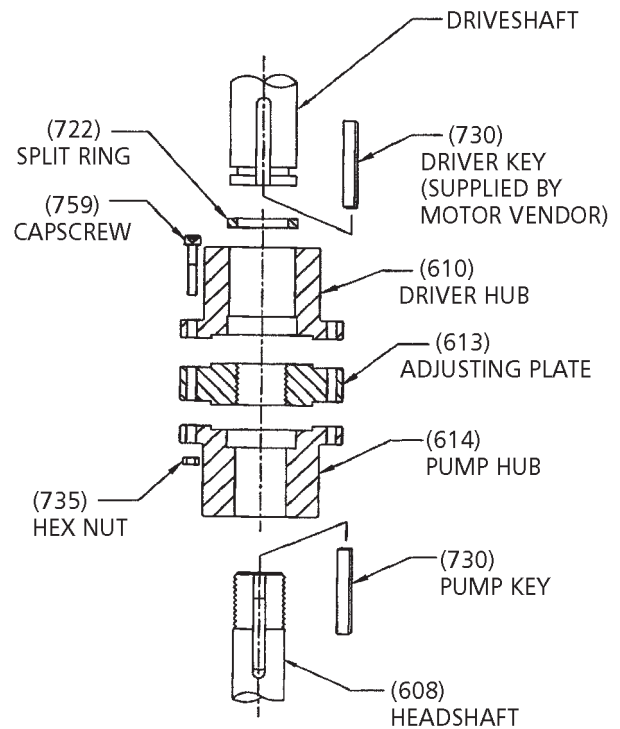
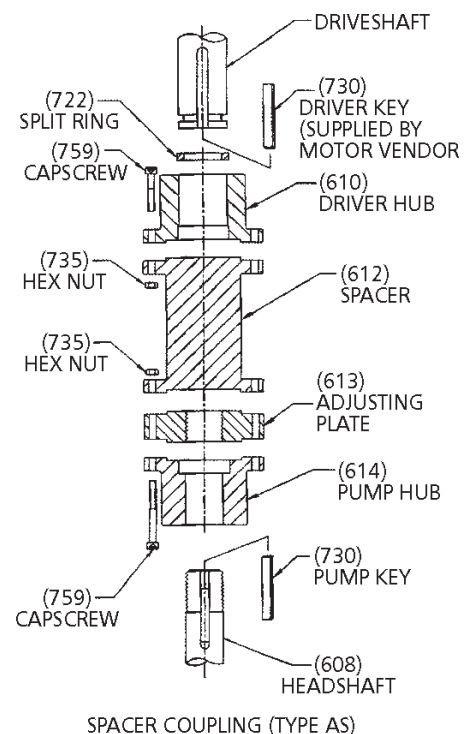

Figure 14
Figure 15
The coupling between the driveshaft and discharge head shaft may be a non-spacer type (see Figure 14), or a spacer type (see Figure 15). The latter is used on pumps furnished with a mechanical seal to permit servicing of the seal without removal of the driver.
COUPLING INSTALLATION: (SEE FIGURES 14 and 15)
6. Apply a thin film of oil to the driver key (730) and insert key into drive shaft keyway seat. Place the driver hub (610) onto the drive shaft and with key slide it up the drive shaft until the annular groove is exposed. Install split ring (722) in the groove and slide driver hub down over the split ring to capture it.
7. If the pump is supplied with an adjustable spacer coupling (see Figure 15), install spacer (612) between headshaft and driveshaft hubs. Secure with capscrews (759) and hex nuts (735).
2. After impeller adjustment, align adjusting plate (613) with the pump hub (614), and tightly draw coupling flanges together with capscrews (759) and nuts (735). (See Figures 14 and 15.)